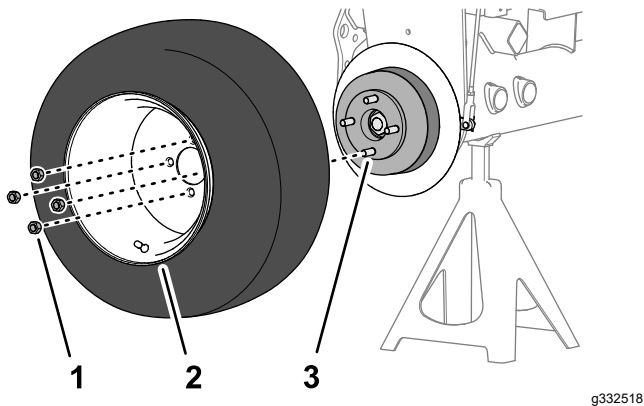

Figure 74
1. Remove the 4 lug nuts that secure the front wheel to the hub, and remove the wheel (Figure 74).